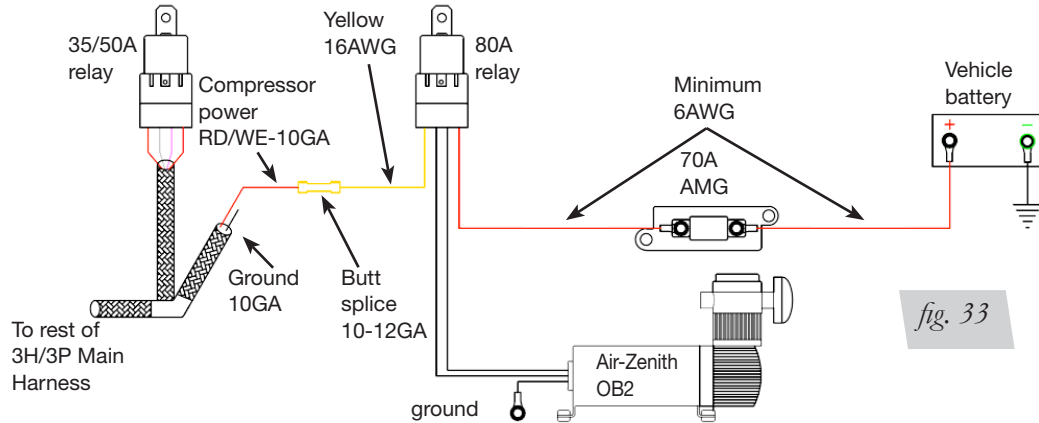

fig. 33
2. If using an Air-Zenith OB2 compressor, follow the wiring diagram below (fig. 33). The 70A fuse, relay, etc. are supplied with compressor. Wiring requirements for the compressor should follow manufacturer's recommendation.